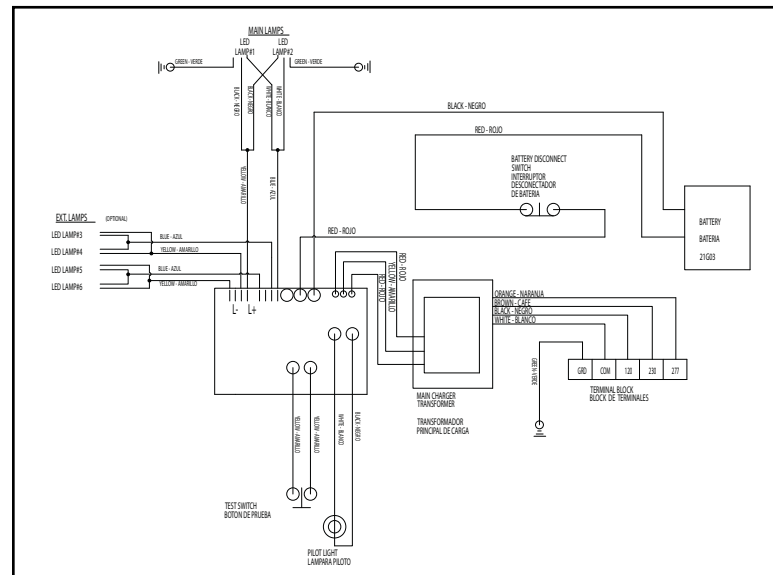

Figure 4. Wiring Diagram
2. Make all wiring connections following wiring diagram located on power supply battery bracket (see Figure 4).
- 2b. Connect battery connector to circuit board (see Figure 4). Lamp heads will **not** light at this time. Verify that transformer connector is also connected to circuit board.